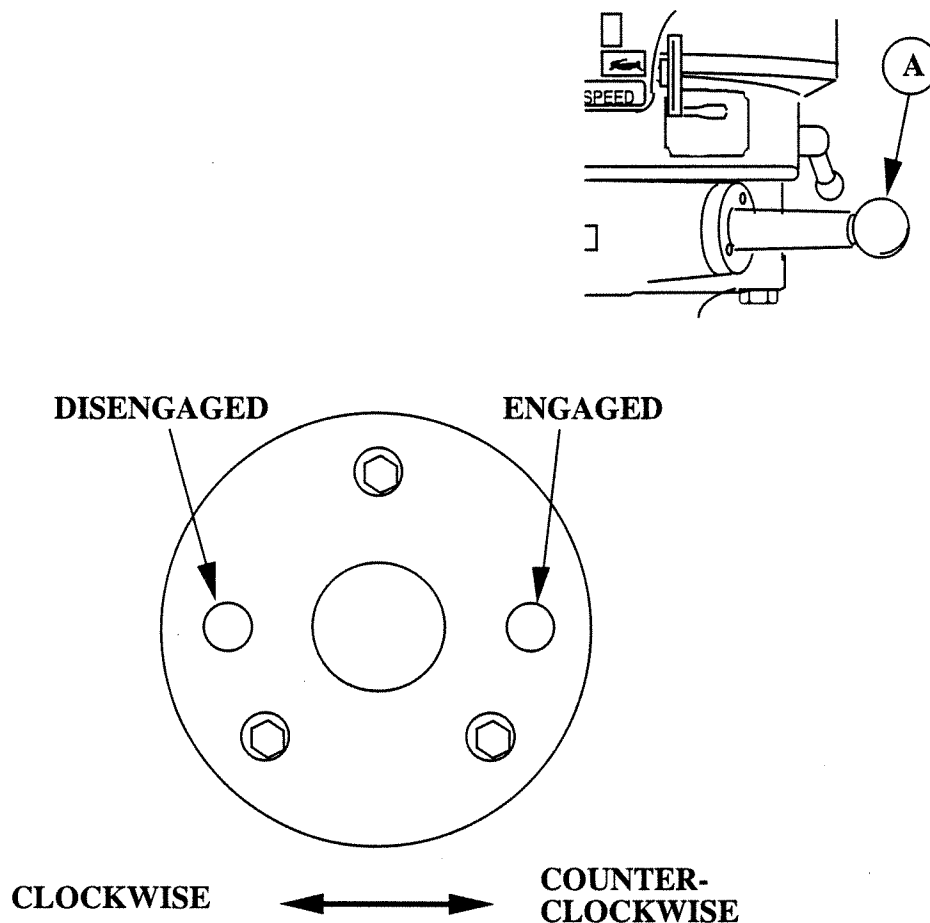

Figure 8-10. Power Feed Transmission Engagement Crank
8.14 POWER FEED TRANSMISSION ENGAGEMENT CRANK (Figure 8-10)